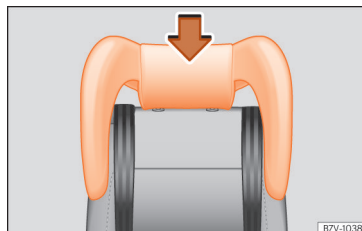

Fig. 33 Integrated child seat: fit its headrest.
- Enter the child seat head support in the corresponding backrest until it fits correctly into place »» Fig. 33.